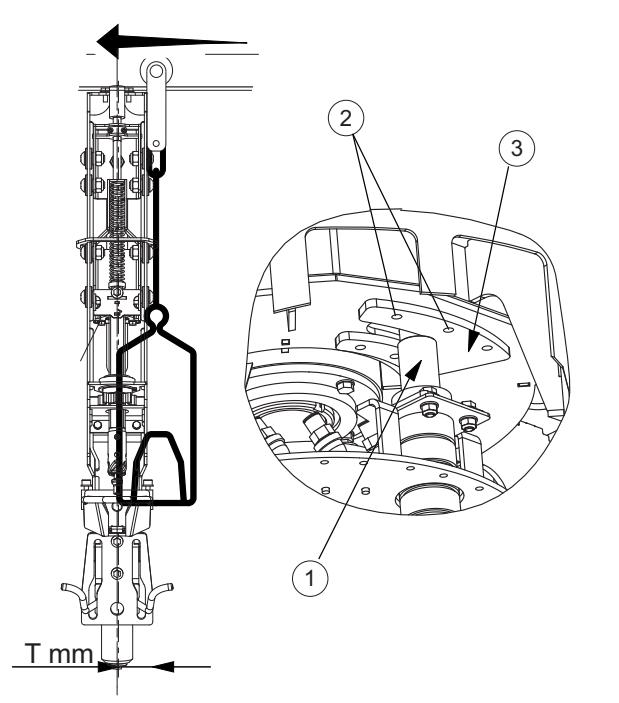

fig. 49 Unit/shackle position
4. Check if the products are positioned properly. See fig. 49 and tab. 13.